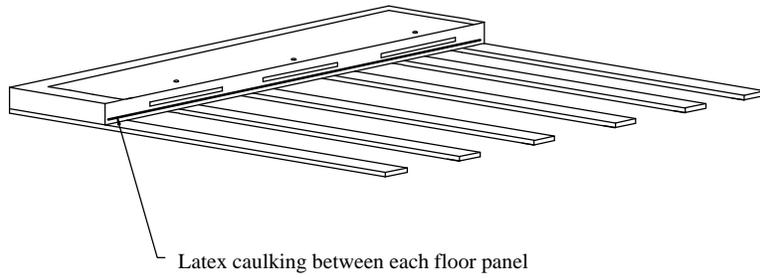

Figure 2 - Laying out the floor panels
4. Place a bead of latex caulking between each floor panel before cam-locking together. Flush the top and end of each panel as to ensure the panels themselves are level (see figure 2 and 3).